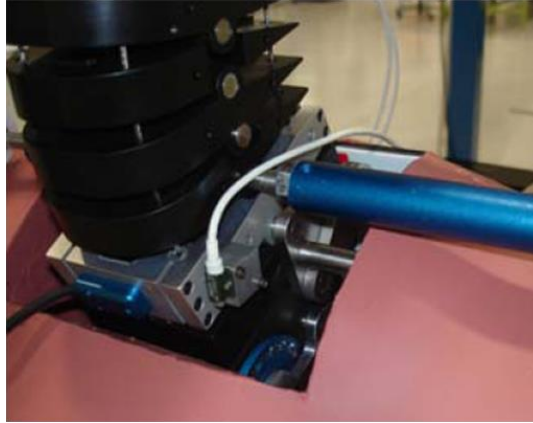

Figure 11: X Accelerometer at T1
- Install an “X” axis accelerometer to the T1 load cell shown in *Figure 11*.